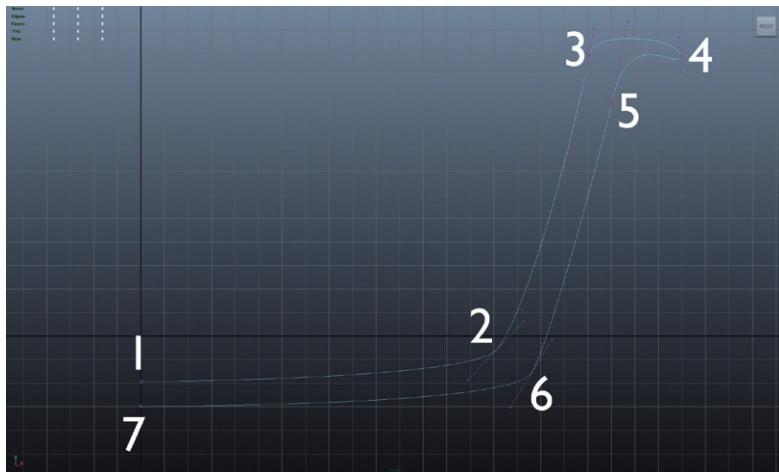

FIG. 3.69 Creating the curve that will become the bathtub.
Step 2: In the front View Panel, create a curve that begins and ends on the Y-axis. Do this by first Create > Bezier Curve Tool. With the tool activated, hold the x down (snap to grid), and click-and-release on the world's Y-axis (indicated by the thickest vertical black line). Continue through the other points shown in Fig. 3.69 by clicking and dragging each time to produce an anchor point with Bezier handles. Do this until point 7 in Fig. 3.69. There, again hold the x key down and click release on the Y axis. Hit Enter to exit the tool.